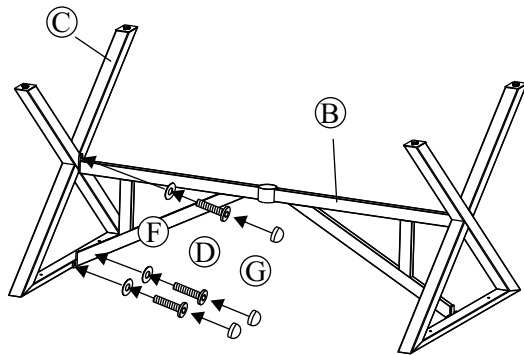

Figure 1
Step 2: Attach a table leg to the leg connector bracket by using three 1/4"x20 mm bolts and washers as shown in **Figure 1**. Guide the bolts through the holes in the leg connector bracket into the pre-drilled hole in the table leg. **Hand tighten only 2-3 turns**. Repeat for the other leg.